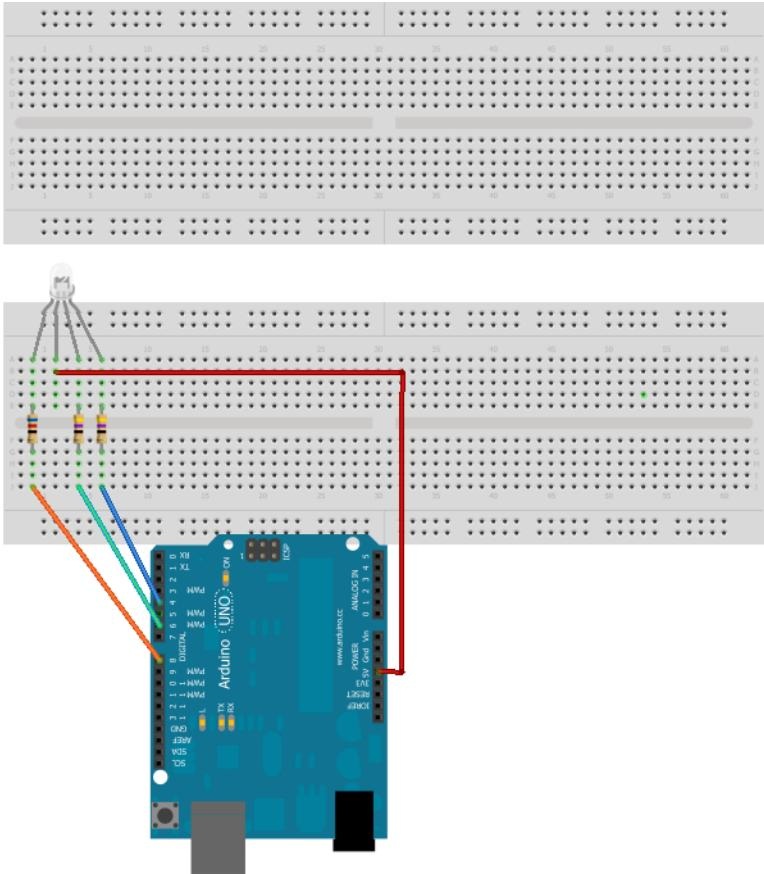

Figure 4-1. Step one.
- 1. Connect the RGB LED to Arduino.** Most RGB LEDs are common anode, so follow the datasheet that came with your LED to connect the anode to the +5 pin on Arduino (Figure 4-1). The R, G, and B pins should be connected to Arduino pins 8, 6, and 4, respectively. For our RGB LED, the red cathode needed a 62 ohm resistor, while the green and blue cathodes needed a 47 ohm resistor. (Your values may vary.)